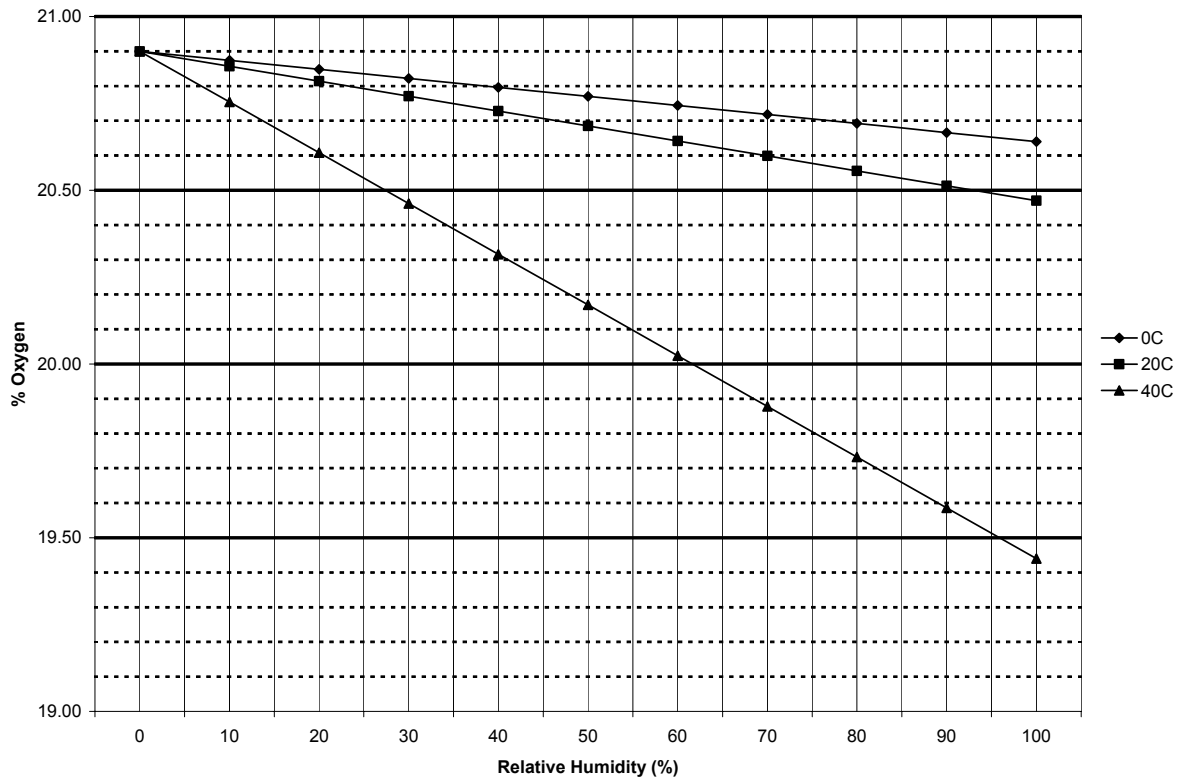

Figure 9 Change in % Oxygen in the atmosphere with Relative Humidity at constant Temperature
**NOTE** – Calibrating the TS420 in normal atmospheric air may introduce a considerable error due to the affects of temperature and humidity. Ambient temperature and humidity can affect the amount of oxygen in the atmosphere (see Figure 9).